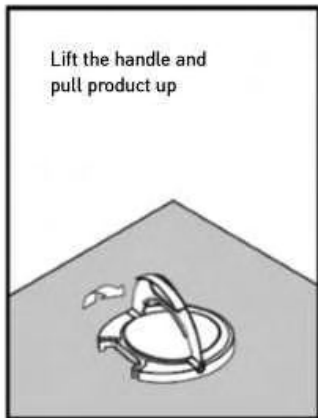

Fig. 3a
- To raise the product, gently lift the handle on the top cover. Raise until it clicks, this means it's locked in position (see Fig. 3a)